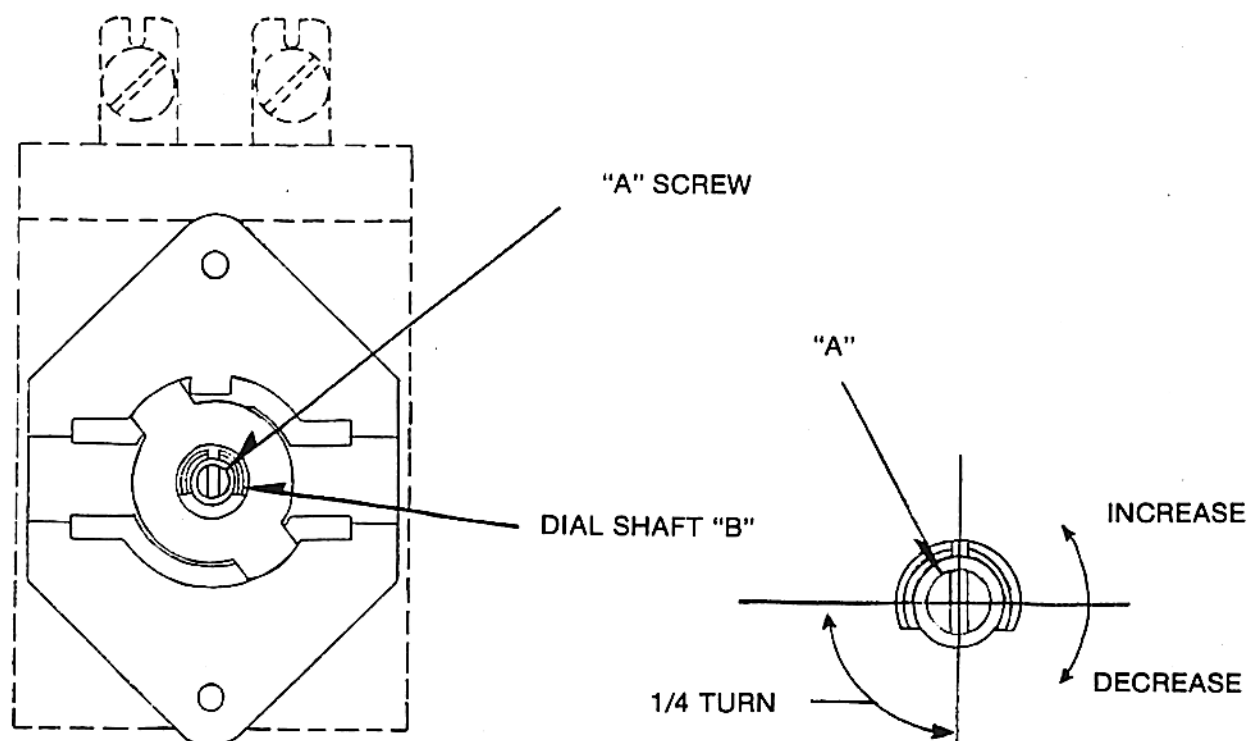

FIGURE 3
2. Rotate pilot adjusting screw (item 5) clockwise until pilot goes out.
I. Units With Thermostat (Standard) (See Fig. 3)
8. Hold thermostat dial shaft "B" (Figure 3) stationary with pliers, and with a screw driver, turn screw "A" (Figure 3) clockwise to obtain a lower temperature or counter-clockwise for higher temperature. Each turn (90° rotation) of screw "A", represents 35°F.
10. Recheck thermostat as in step (4) and (5) above, if the griddle surface temperature is not within 20 degrees of the dial setting (350°F \pm 20°F), it means that the sensing element is inoperative, and the thermostatic control should be replaced.